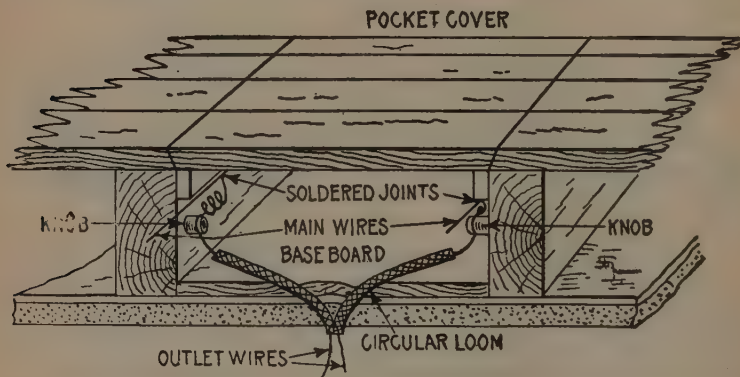

FIG. 1,003.—View of completed pocket and ceiling outlet showing method of bringing out the wires.
**Ans.** A small hole is bored through the ceiling and the bit pushed up till it comes in contact with the flooring of the room above, this flooring is also bored, as in fig. 1,001.